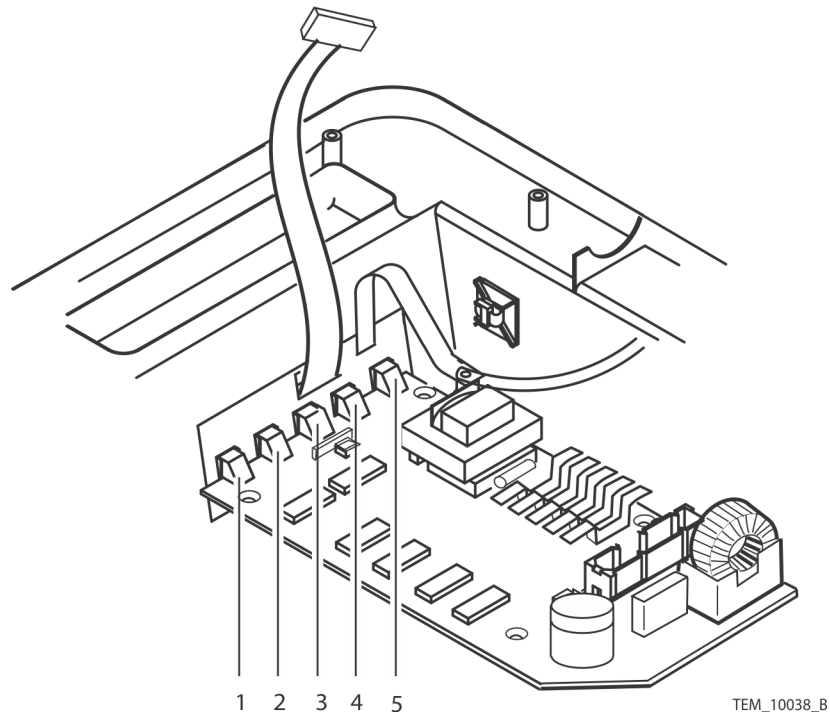

Figure 5-20. Control PCB Lights
Carefully align the lights on the Control PCB with the control panel key pad push buttons. Failure to do so could damage the key pad or the Control PCB lights. See Figure 5-20, items 1-5.